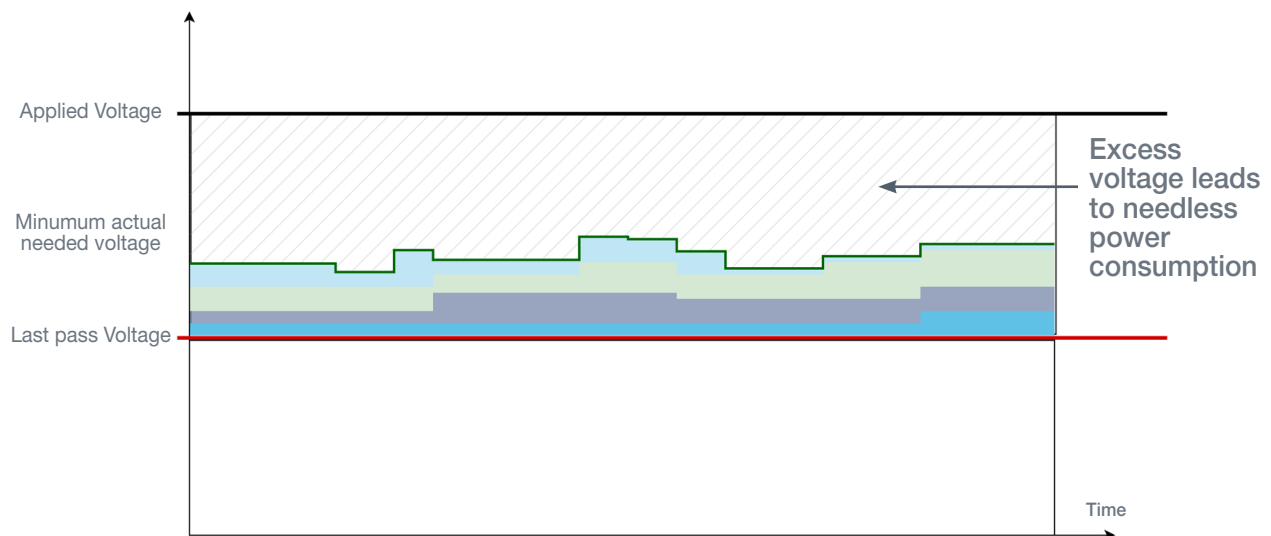

Figure 5: Minimum required voltage over time
**Figure 5** shows the minimum required voltage over time. Some factors are more dominant than others. Some factors change slowly over time, and yet others can change at the rate of change of the software workload that runs on the device. The best-case optimization would be to track these changes precisely, to tailor the required voltage to fit the actual need at any point in time.